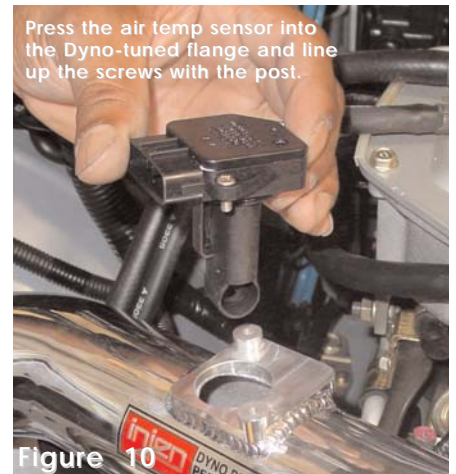

Figure 10
- 9- Take the air temperature sensor and insert it into the machined dyno-tuned bracket on the intake and use the stock self tapping screws to secure the air temperature sensor in place. (See fig. 10)